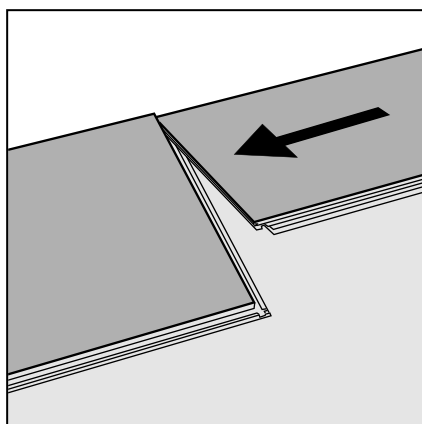

Figure 47 Second plank, first row
- ▶ Place the short end of the second plank close to the corresponding short end of the previous plank. Carefully fold it down with a single action movement; (Fig 47).